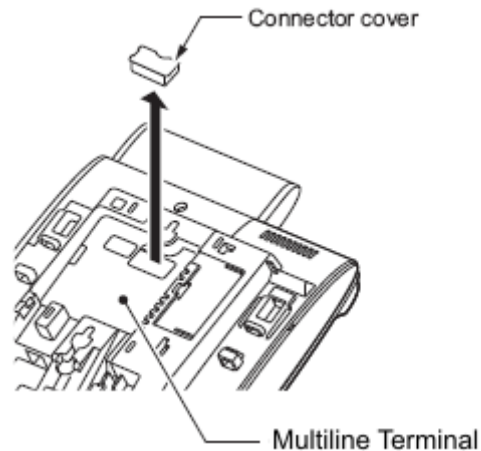

Figure 5-151 Removing the Connector Cover
4. Remove the connector cover (rubber) from the bottom of the multiline terminal (see Figure 5-151 Removing the Connector Cover on page 5-129).